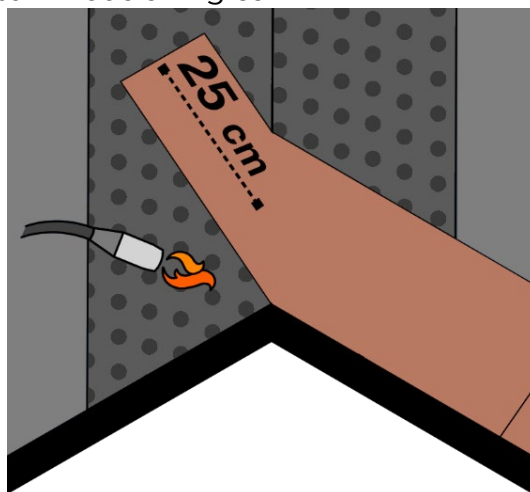

Fig. 20 - Shingles installation by torch at the valley
- As for the roof valleys, prepare a band of bituminous membrane about 100cm wide, applied by torch in advance, to ensure its waterproofing. Starting from a pitch, lay the bituminous shingles in rows, starting with the starting row shingles, so that the shingles pass at least 25 cm above the axis of the valley. Fix them by torch, always heating the membrane and do not torch directly the back of the shingle. Proceed at the same way with the first-row shingles. It is advisable to cut the shingles along the 25cm line parallel to the valley once the elements are installed – Fig. 20.